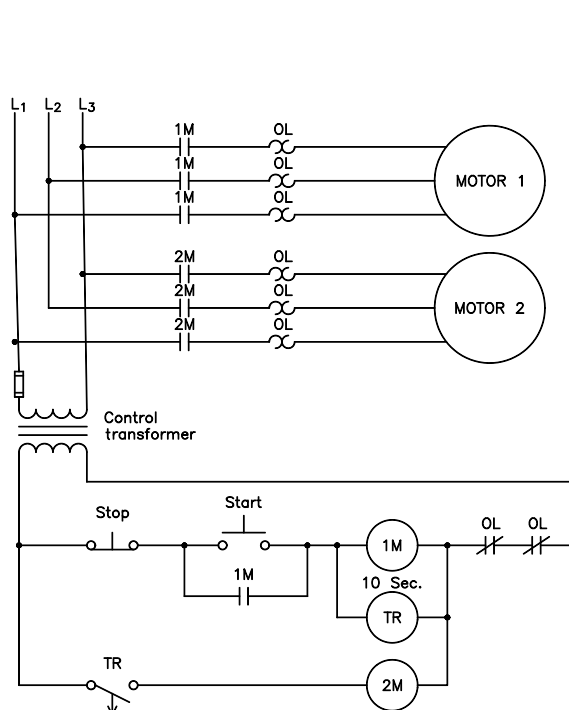
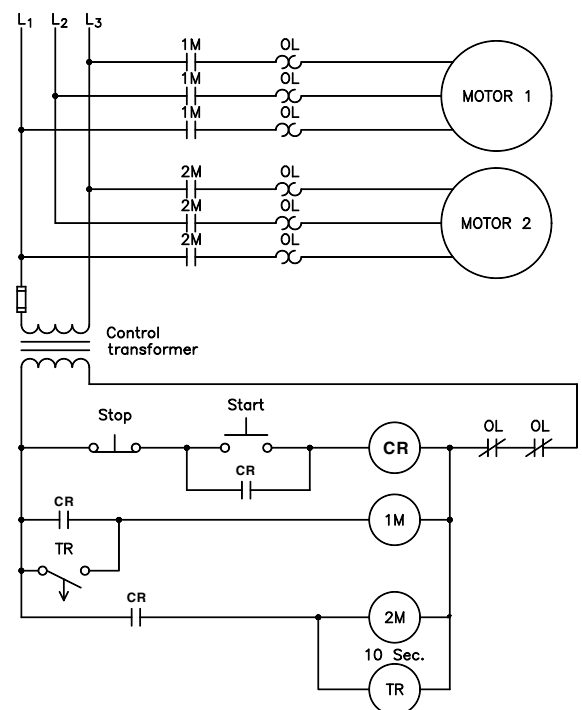
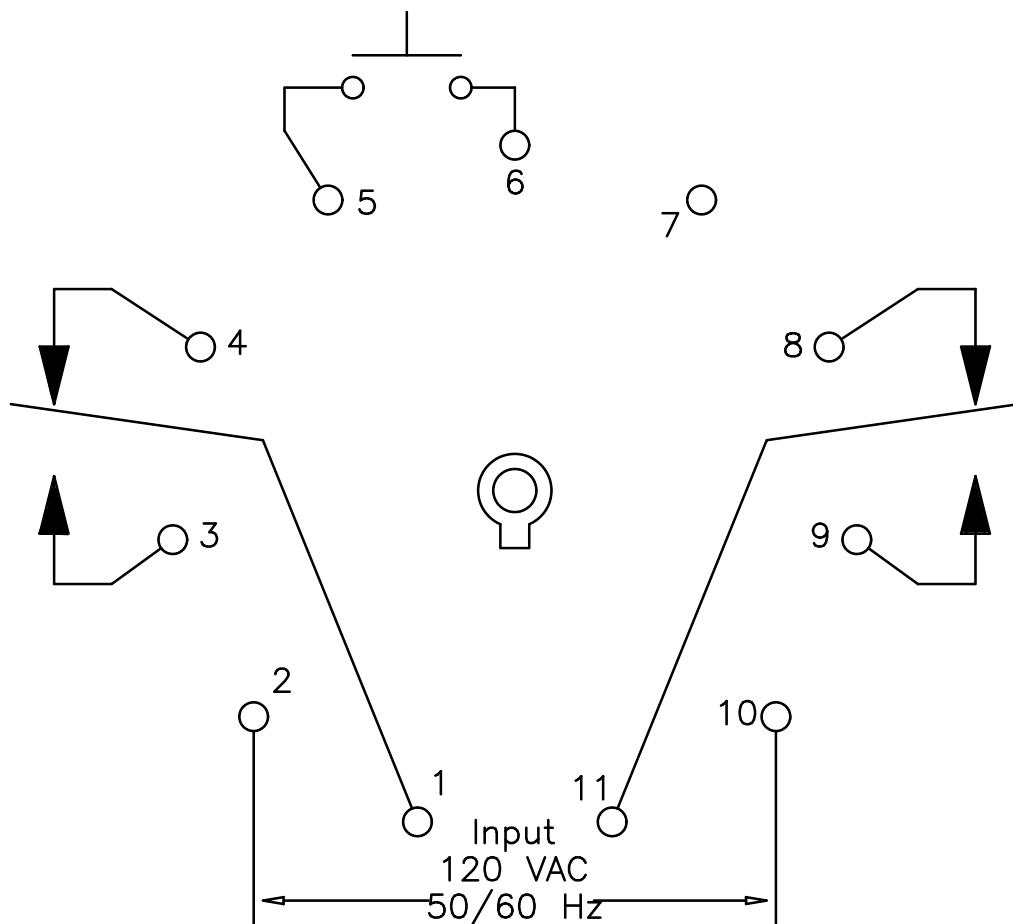
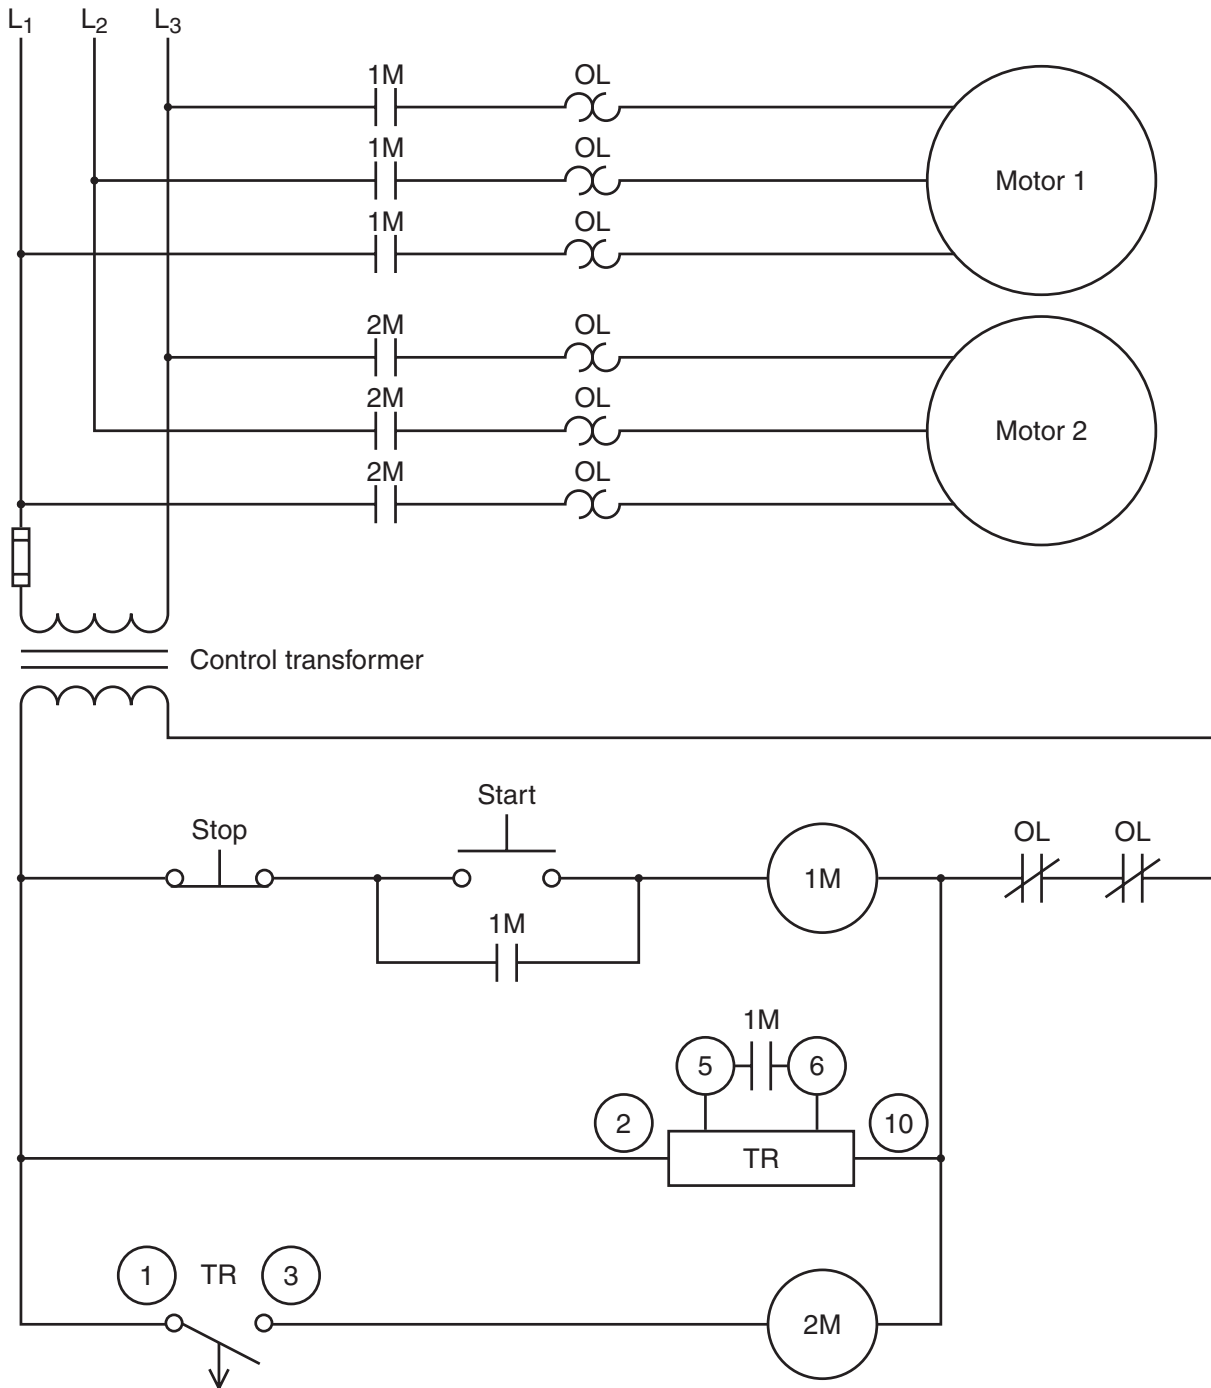

Figure 32-3 Off-delay motor circuit using pneumatic timer.
Figure 32-4 Motor 1 stops after motor 2.
Figure 32-5 Connection diagram for a Dayton model 6A855 timer.
Figure 32-6 Amending the first circuit for an electronic timer.
In the second example it is assumed that timer TR has been set for a delay of 10 seconds. Two motors start when the start button is pressed. When the stop button is pressed, motor #1 stops operating immediately, but motor #2 continues to run for 10 seconds (Figure 32-3). In this circuit the coil of the off-delay timer has been placed in parallel with motor starter 1M, permitting the action of the timer to be controlled by the first motor starter.
Now assume that the logic of the previous circuit is to be changed so that when the start button is pressed both motors still start at the same time, but when the stop button is pressed, motor #2 must stop operating immediately and motor #1 continues to run for 10 seconds. In this circuit the action of the timer must be controlled by the operation of starter 2M instead of starter 1M (Figure 32-4). In the circuit shown in Figure 32-4, a control relay is used to energize both motor starters at the same time. Notice that timer coil TR energizes at the same time as starter 2M, causing the normally open TR contacts to close around the CR contact connected in series with coil 1M.
In the circuits shown in Figure 32-3 and Figure 32-4, it was assumed that the off-delay timers were of the pneumatic type. It is common practice to develop circuit logic assuming that the timers are of the pneumatic type. The reason for this is that the action of a pneumatic timer is controlled by the coil being energized or de-energized. The action of the timer is dependent on air pressure, not an electric circuit. This, however, is generally not the case when using solid-state time delay relays. Solid-state timers that can be used as off-delay timers are generally designed to be plugged into an 11-pin tube socket. The pin connection for a Dayton model 6A855 timer is shown in Figure 32-5. Although this is by no means the only type of electronic timer available, it is typical of many.
Notice in Figure 32-5 that power is connected to pins 2 and 10. When this timer is used in the on-delay mode, there is no problem with the application of power because the time sequence starts when the timer is energized. When power is removed, the timer de-energizes and the contacts return to their normal state immediately.
to start the operation. The diagram in Figure 32-5 uses a start switch to illustrate this operation. When pins 5 and 6 are shorted together, it has the effect of energizing the coil of an off-delay timer and all contacts change position immediately. The timer will remain in this state as long as pins 5 and 6 are short circuited together. When the short circuit between pins 5 and 6 is removed, it has the effect of de-energizing the coil of a pneumatic off-delay timer and the timing sequence will start. At the end of the time period, the contacts will return to their normal position.
The circuit in Figure 32-3 has been amended in Figure 32-6 to accommodate the use of an electronic timer. Notice in this circuit that power is connected to pins 2 and 10 of the timer at all times. Since the action of the timer in the original circuit is that the coil of the timer operates at the same time as starter coil 1M, an auxiliary contact on starter 1M will be used to control the action of timer TR. When the start button is pressed, coil 1M energizes and all 1M contacts close. This connects motor #1 to the line, the 1M contact in parallel with the start button seals the circuit, and the normally open 1M contact connected to pins 5 and 6 of the timer closes and starts the operation of the timer. When timer pins 5 and 6 become shorted, the timed contact connected in series with 2M coil closes and energizes starter 2M.
1. Place wire numbers on the schematic shown in Figure 32-6.
2. Using an 11-pin tube socket, connect the control part of the circuit in Figure 32-6.
3. Refer to the schematic diagram shown in Figure 32-6. Assume that starter coil 2M is open. Describe the action of the circuit when the start button is pressed and when the stop button is pressed.